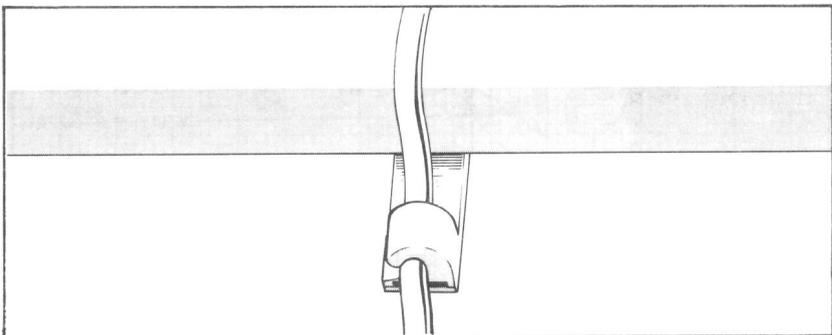

FIGURE 7. Installed Vertical Clip
(4) Place the wire into the notch provided and remove any slack in the wire. Place the V clips into every horizontal joint up or down to entrance hole. See Figure 7.